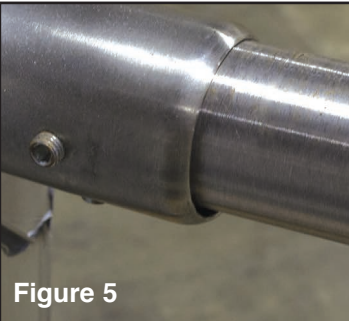
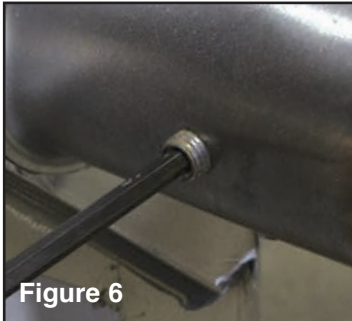

Figure 5
Figure 6
Mount the provided wall “Z” brackets to wood studs or cement walls for strong support. Mount the bracket(s) at recommended height of 42.5” from the finished floor to the top of the bracket (Figure 6).
FOR KNEE VALVE (KV) OR TOE-PUSH VALVE (FV) MODELS: Connect water supply lines to valve(s) and water supply line(s) from valve(s) to faucet(s). Connect drain(s). (Figure 6).
Slide tubular legs all the way into the gussets (Figure 5). Tighten each Set Screw using Allen Wrench (Figure 6).
Make sure foot pedal(s) are clear from rubbing against the floor when pushed in all the way by pushing with your toe. (Figure 5).